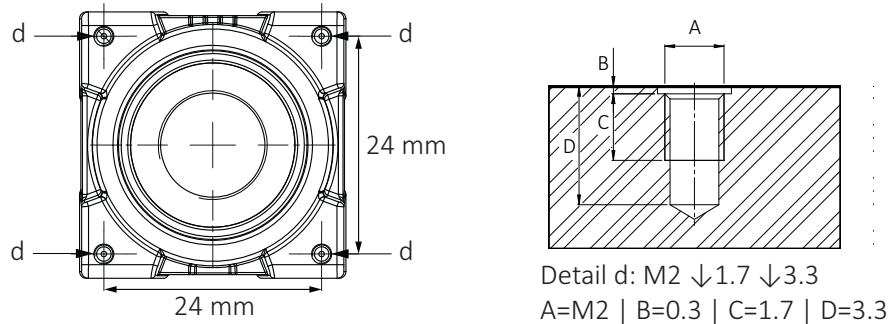

Figure 60: Camera front with mounting threads (c)
1. Mount the camera to the base using suitable M2 screws at 0.17 Nm maximum torque for a thread engagement (C) of 1.7 mm between screws and mounting threads, see Figure 60. For technical drawings, see G1 Closed Housing: Dimensions and mass on page 155.